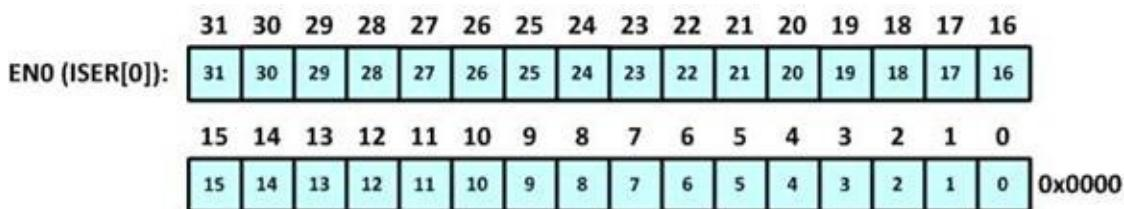

Figure 6-10: Interrupts 0–31 Set Enable (EN0)
- 2) In ARM Cortex, there is an interrupt enable for each entry in the interrupt vector table. These enable bits are in the registers in NVIC. Each register covers 32 IRQ interrupts. For example, register EN0 controls the enable the interrupts for IRQ0 to IRQ31, EN1 for IRQ32 to IRQ63, and so on. See Figure 6-10.